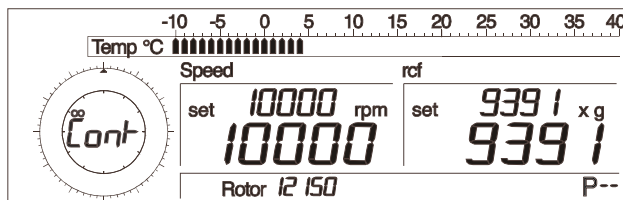

Fig. 5.13: Continuous run display
- Starting with the time setting 11:59, turn the knob clockwise to the next setting. The message “cont” and the symbol “∞” will be displayed (Fig. 5.13).